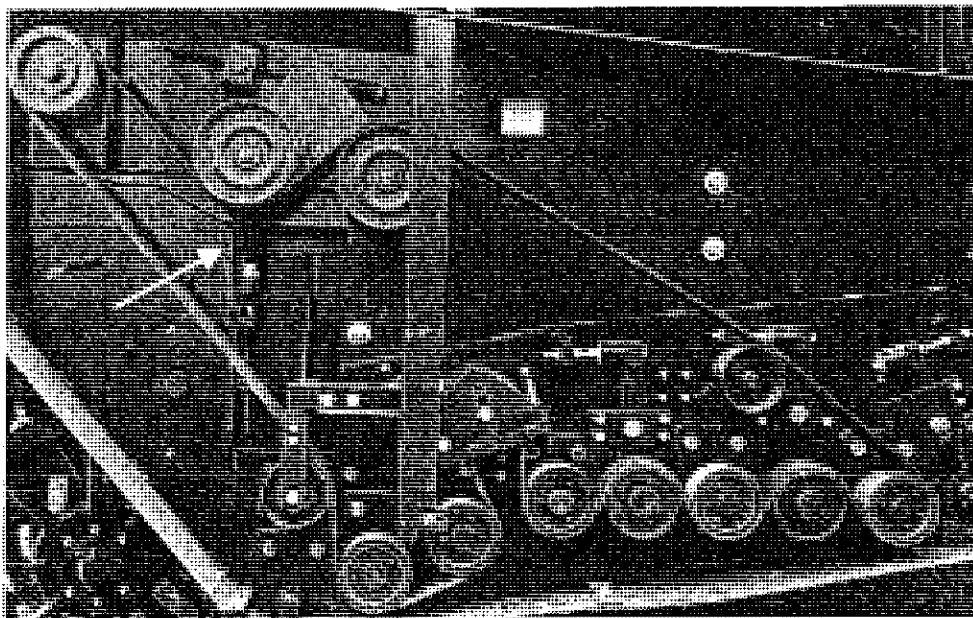
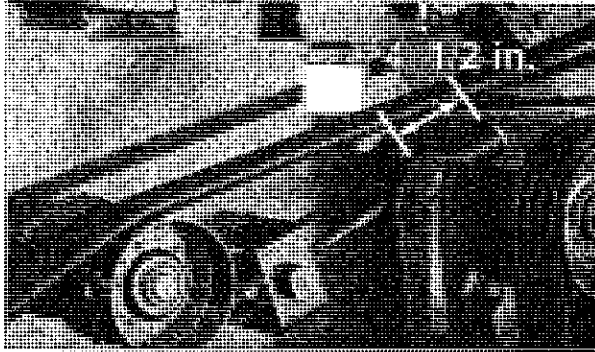

Figure 28. Left-Hand Drive Mechanism (Shields Removed For Clarity); Arrow Shows Assist Spring (Left-Hand Drive Only)
Figure 29. Belt Tension Adjustment
- A 6-band V-belt drives the rollers on the left side of the harvester (Figure 28).
Drive belt tension is adjusted with idlers on each side of the harvester. The idler springs (Figure 29) on both the right and left-hand drives should be set to 4-1/2" length. Check the tension regularly and tighten if required. The assist spring (indicated by the arrow in figure 28) should be set at a length of 13 1/2 " from the coil ends. Set this spring after adjusting the primary drive tension spring.